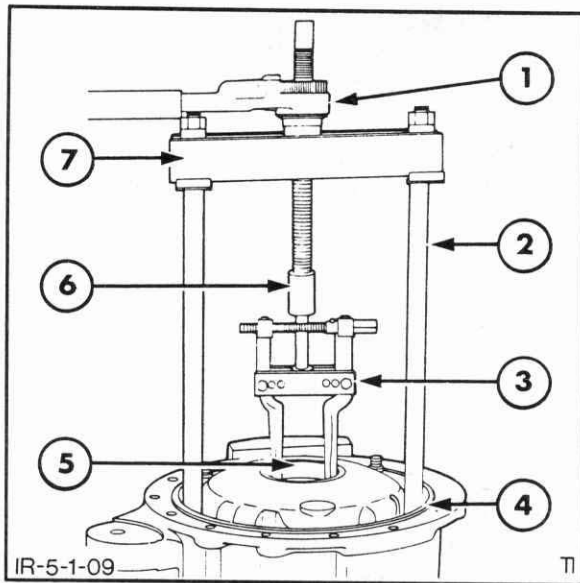

Figure 5-9
- b. Remove the differential bearing cup, together with the shims, from the inner disc brake housing, Figure 5-9.